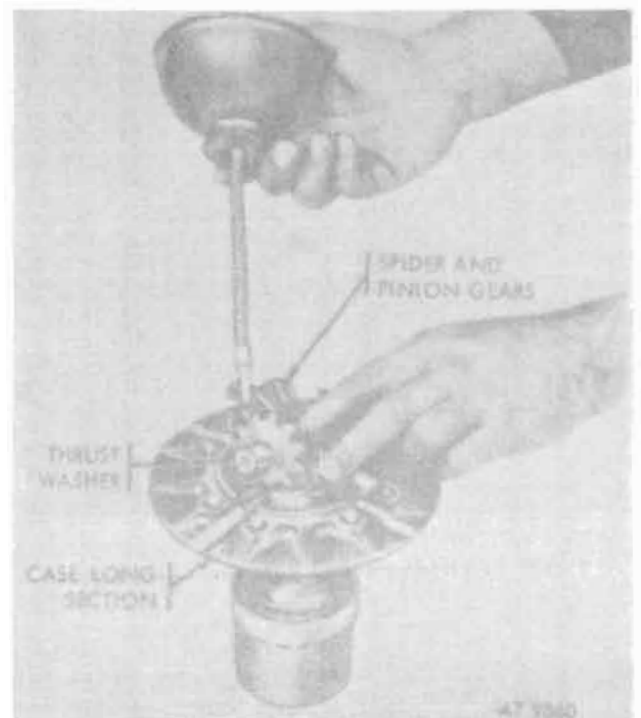

Figure 12-39. Lubricating and installing spider, spider pinion gears, and thrust washers.
d. Lubricate four spider journals, spider pinion gears, bores, and both sides of four thrust washers; and install in case long section, using OE as a lubricant (fig. 12-39).